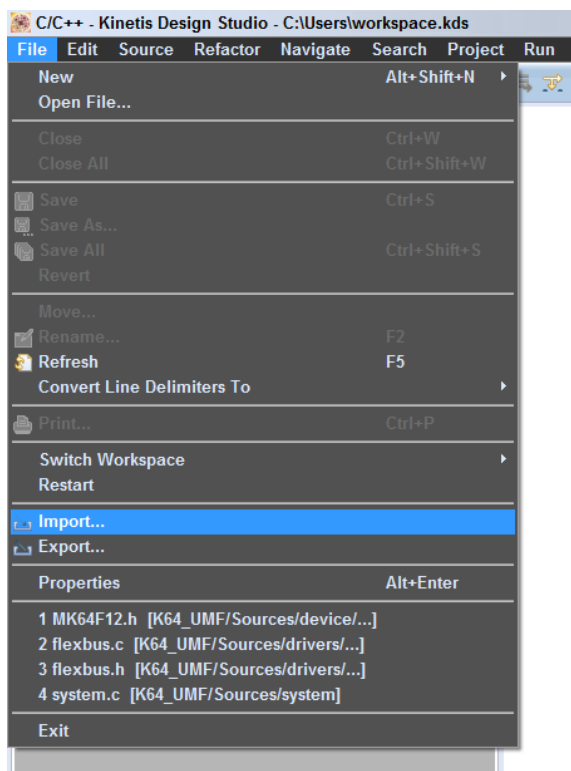

Figure 16. KDS—importing project
- Click the “File” menu in the top-left corner of the IDE, and select “Import” (Figure 16).